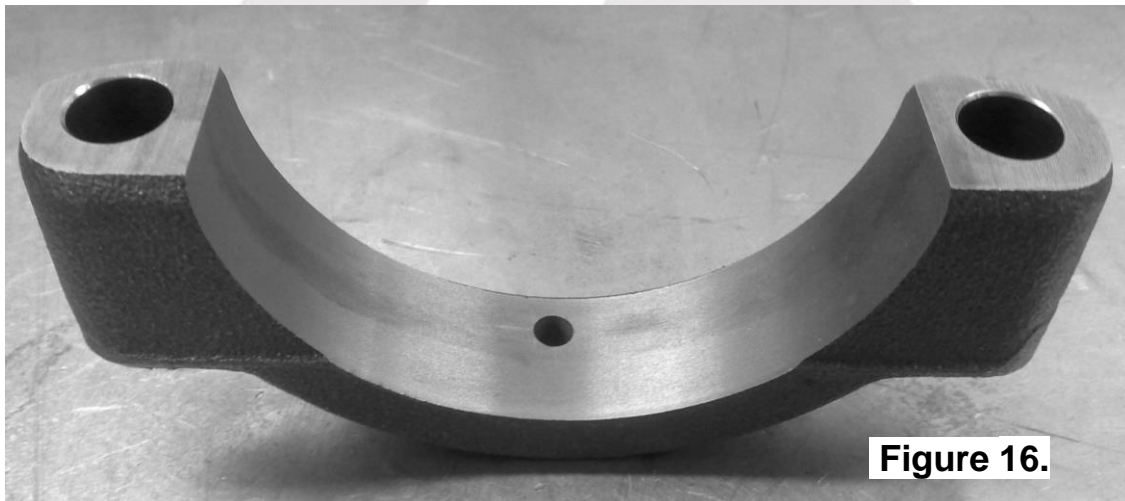

Figure 16.
- Using a pedestal drill, drill a 6.35mm [ $\frac{1}{4}$ "] hole through the bearing cap, in the position you have marked. (Fig.16.)